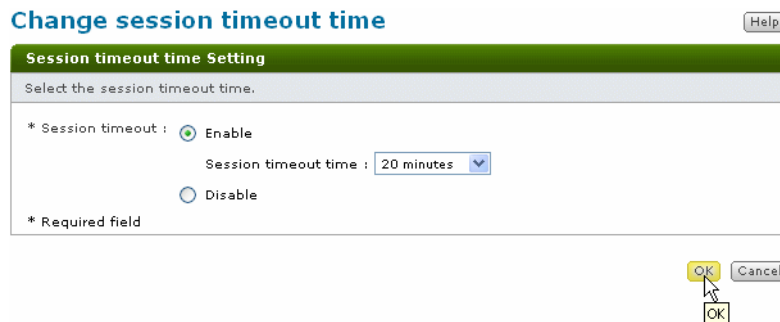

Figure 5-12: Change session timeout time dialog box
6. Click **Change session timeout time**. The Change session timeout time screen appears as shown in Figure 5-12.